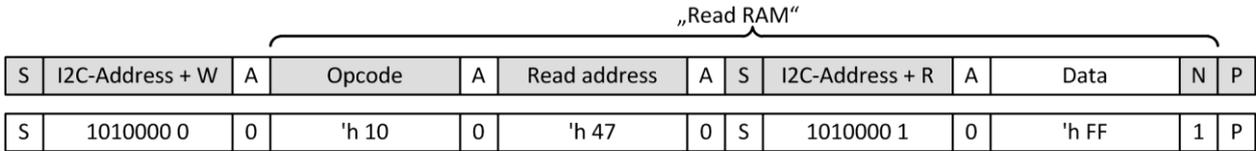

Figure 4-3: I²C Read
During read transactions, the direction of communication has to be commuted. Therefore, the master sends again a start condition plus the slave address plus the **read bit** (instead of the write bit) to switch into read mode. Figure 4-3 shows an example with opcode “read RAM”. The master sets a Not-Acknowledge (1) to indicate “end read”, “stop sending” to the slave.